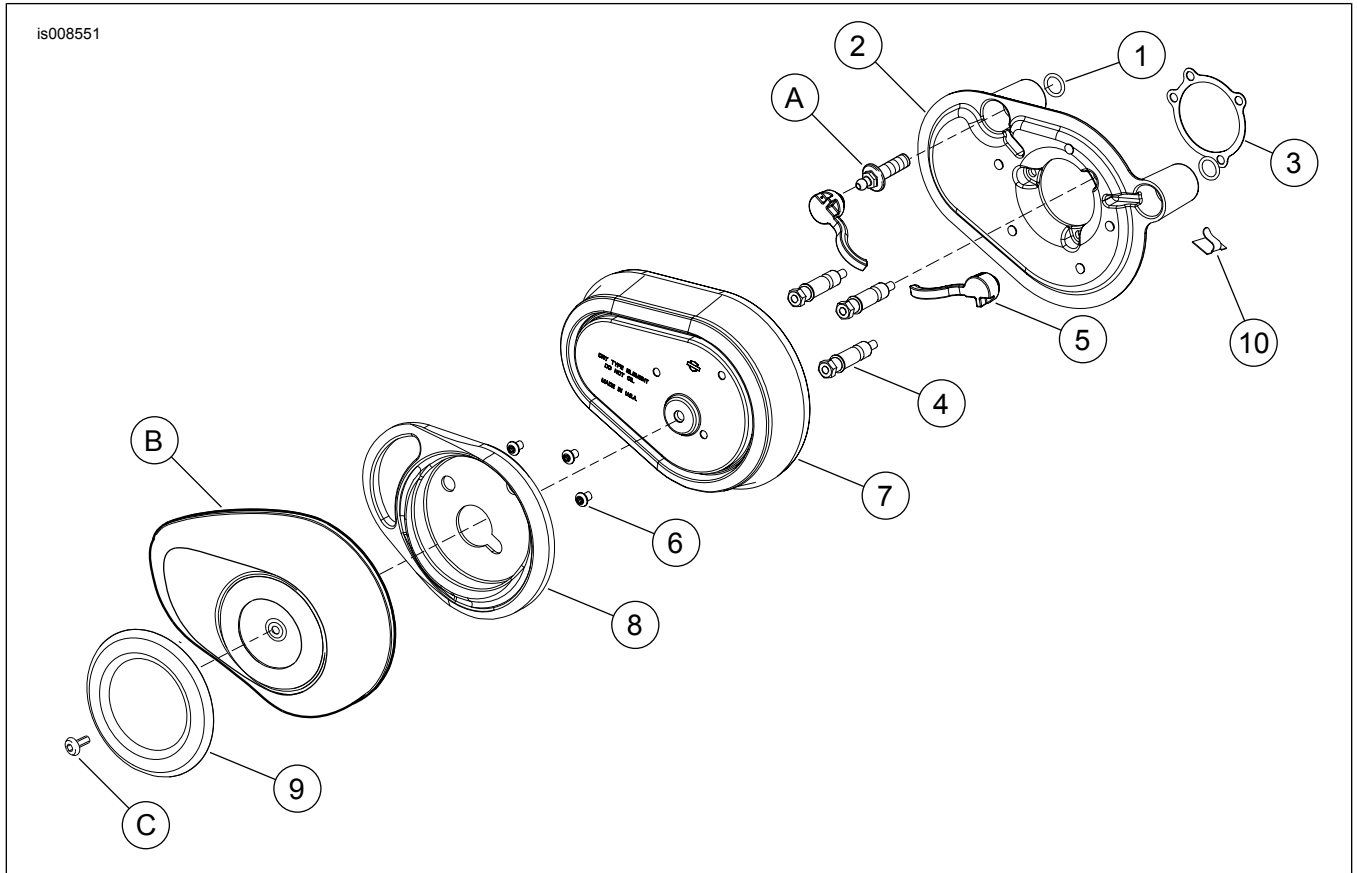

Figure 1. Service Parts: Screamin' Eagle Stage 1 Kit
See Figure 1 and Table 1.
1. Clean lower area of induction module side of backplate. Use a mixture of 50-70% isopropyl alcohol and 30-50% distilled water. Allow to dry completely. Align adhesive backed clip (8) with opening upwards, and affix in six o'clock position. Clamp wire previously removed from original equipment backplate.
2. See Figure 1. Install two O-rings (1) from kit in grooves around breather screw holes on induction module side of backplate assembly (2).
3. Peel the protective strip off the gasket (3) and place the adhesive side onto the backplate. Position the gasket carefully before firmly pressing the gasket into place.
4. Insert breather screws (A) through the backplate.
7. Thread air cleaner mounting studs (4) all the way through the backplate (2) and gasket (3) until the screw threads are captured in induction module. Leave fasteners loose.
8. Alternately tighten two breather screws (A) to 13.6–16.3 N·m (120–144 **in-lbs**).
9. Press breather plugs (5) into breather screw cavities and onto ends of breather screws, aligning tubes with recesses in backplate.
10. Tighten three air cleaner studs (4) to 6.2–6.8 N·m (55–60 **in-lbs**).
1. See Figure 1. Secure air filter element (7) to air cleaner mounting studs (4) using screws (6). Tighten screws to 6.2–6.8 N·m (55–60 **in-lbs**).
2. Carefully remove and discard the original air cleaner cover insert from air cleaner cover (B). Remove any residual adhesive on the cover with mineral spirits.
4. Peel liner from adhesive backing of air cleaner cover insert (9). Position insert over air cleaner cover (B) without touching adhesive on cover surface. Line up top of insert with top of oval air cleaner cover.
1. See Figure 1. Remove air cleaner cover (B) and inspect the filter element (7) every 5000 mi (8000 km), or more often under dusty conditions.